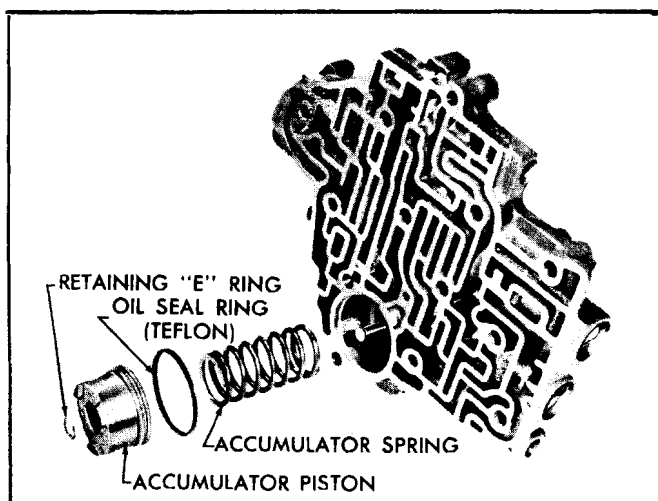

Fig. 7E-100 Exploded View of Front Accumulator Piston
4. Remove front accumulator piston and spring (Fig. 7E-100).